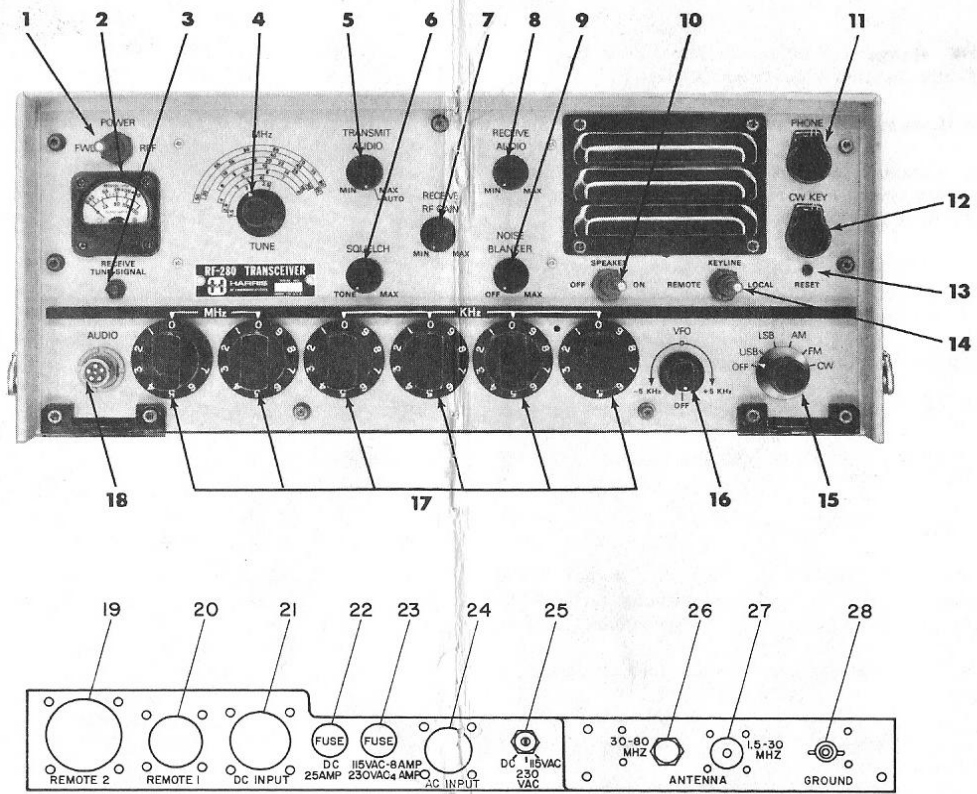

Figure 2. Operating Controls, Indicators and Connectors.
b. On rear panel of RF-280, set power switch at DC. (figure 2).